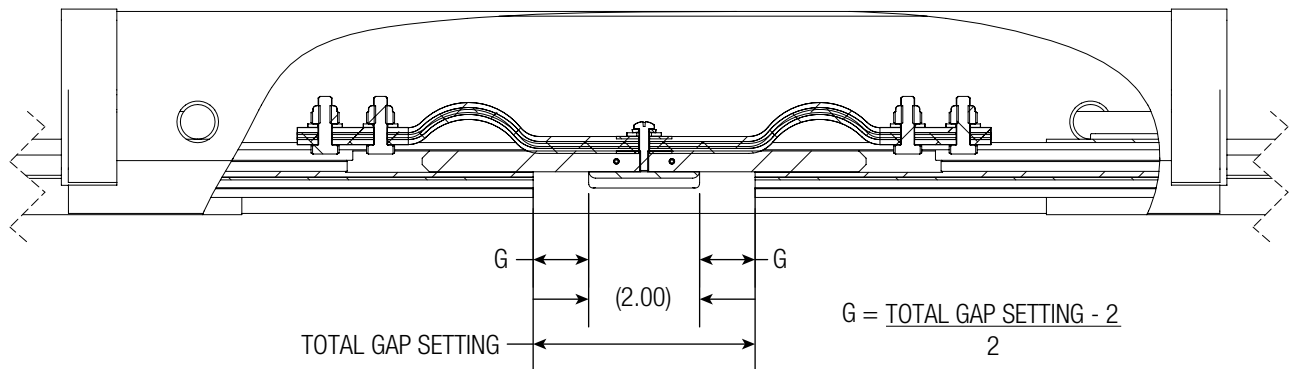

Figure 10-1
- Conductor bar, conductor bar cover, slider assembly, overlap cover, and end plugs. A drawing of a 500A expansion assembly can be seen below in **Figure 10-1**.